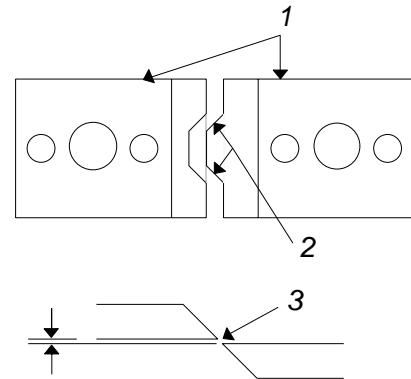

Figure 9 Die Alignment & Knife Clearance
- c. Visually inspect alignment of die forming area to insure equal spacing on both sides (Figure 9, Item 2).